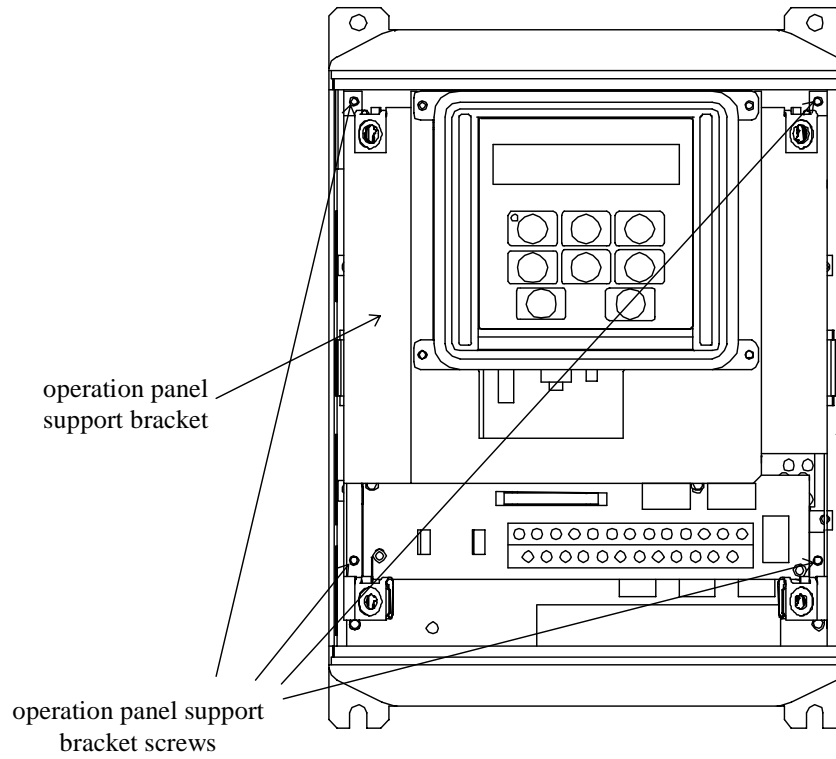

Figure 1: *G3 with front cover removed*
4. Loosen the 4 screws attaching the G3's operation panel support bracket to the control board support bracket and remove the operation panel and support bracket as a unit (refer to Figure 1).